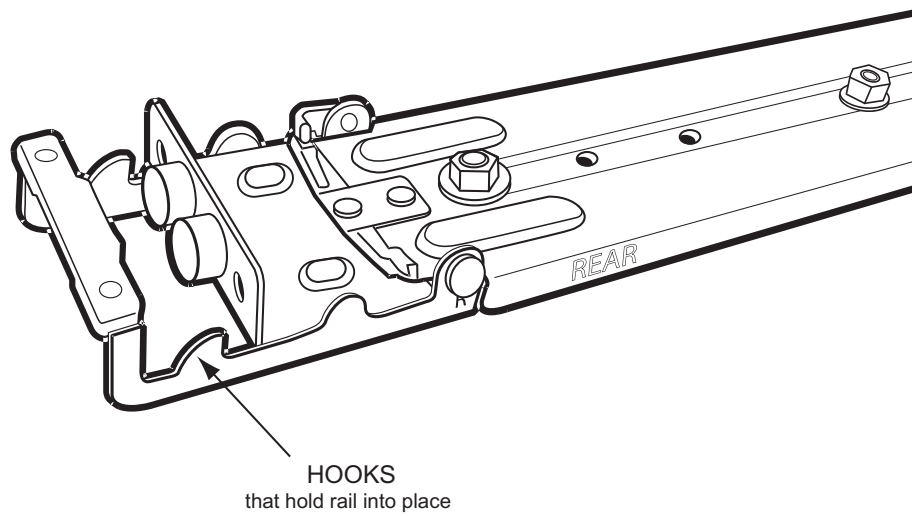
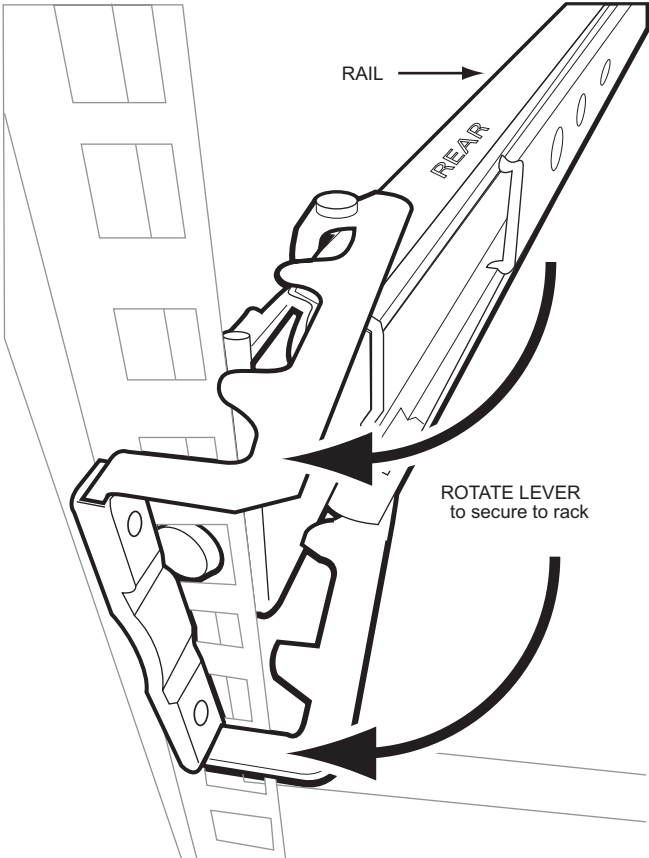

Figure 2.2 Detail View of Slider Rail Rear Retaining Hooks
Figure 2.3 Detailed View of Slider Rail Rear Retaining Hooks being Locked onto the Rear of the Equipment Rack
- 1b. Attach the rear end of the slider rail to the rear edge of the equipment rack. See figure 2.2 on page 12 and figure 2.3 on page 13.